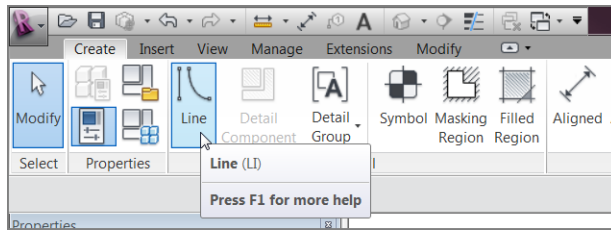

FIGURE 11.77: Click the Line button to start sketching the box.
- 1. On the Create tab, Detail panel, click the Line button, as shown in Figure 11.77.